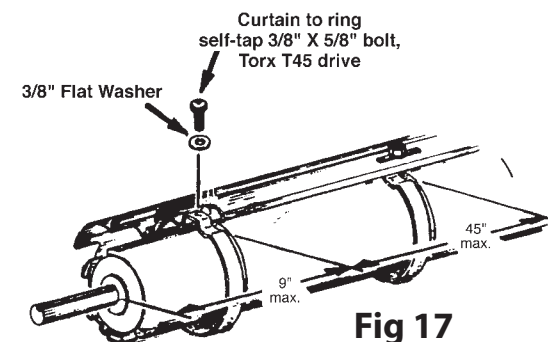

Fig 17
- If the barrel has rings, hold the top slat on the rings and make holes in the top slat aligned with holes in rings. Use drill/driver to attach top slat to rings with 3/8" round head Torx screws and washers provided. Set the drill/driver clutch to minimum torque required to drive screws. DO NOT USE IMPACT WRENCH because it will strip the screw threads in rings. See Figure 17.